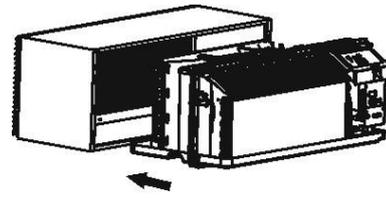

Fig.7
- Lift unit level and slide unit into wall sleeve until firmly against front of wall sleeve and secure with 4 screws and washers (supplied) through the unit flange holes. (See Fig.7 and Fig.8)